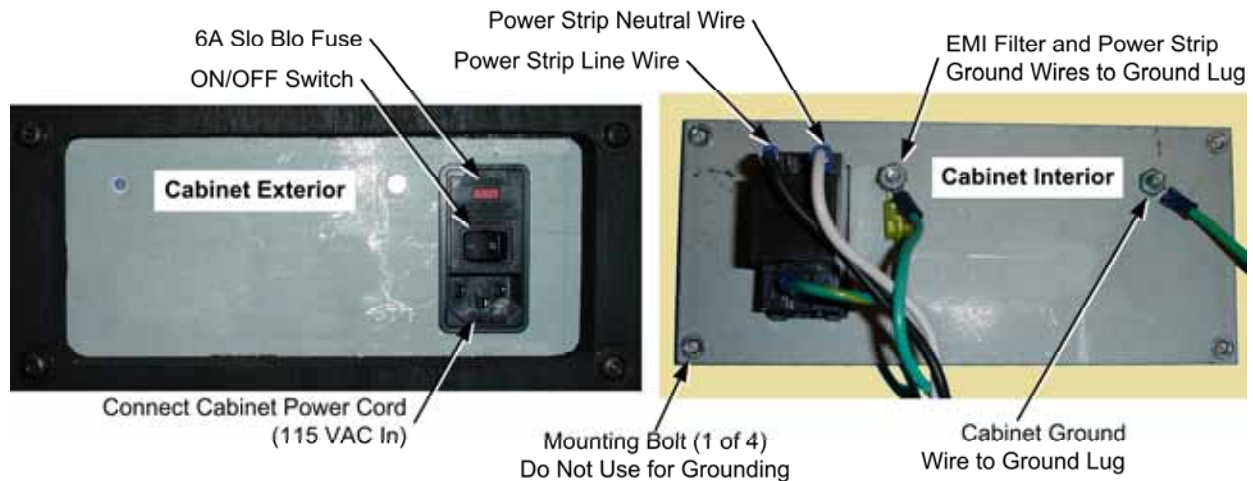

Figure 30. AC Power Plate (Shown Without Labels)
The AC power strip provides power to all of the components in the cabinet. If the cabinet has no power, check the 6A Slo Blo fuse in the power plate (see Figure 30) and replace if blown. Perform the following steps to replace the power strip:
3. Disconnect the power strip from the AC power plate terminals shown in Figure 30.